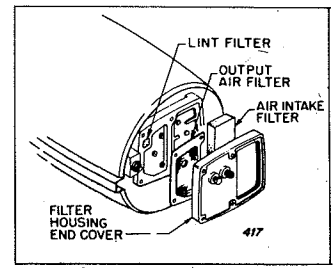
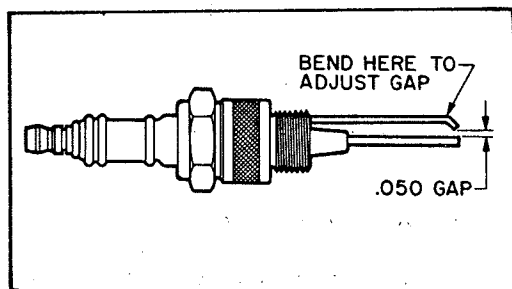

Figure 5. Access to Air Filter for Maintenance
Figure 6. Spark Plug Gap Setting
4. To reach the output air filter, remove the four screws which attach the filter housing end cover. Remove the output air filter. See Figure 5.
2. Remove the spark plug from the burner head, and check the gap between the electrodes. The gap must be within the limits shown in Figure 6. Some models have the automotive type spark plug, these will require correct positioning as shown in Figure 5.